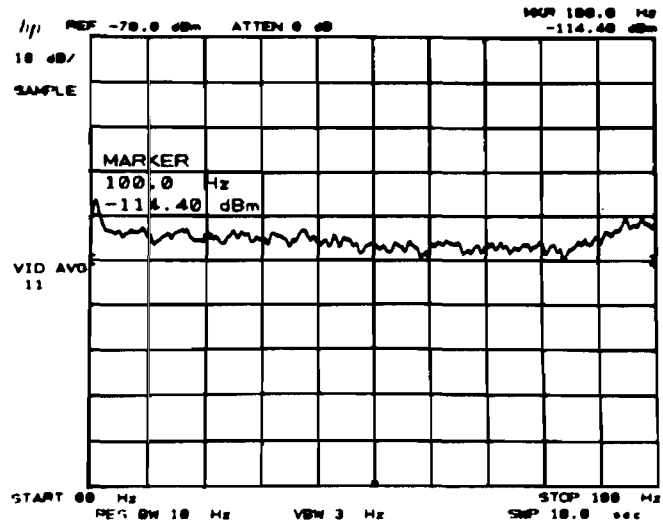

Figure 2-26. Average Noise Level Measurement
7. Press MARKER **NORMAL**. Tune to 100 Hz, or the nearest frequency that is not on the slope of the LO feedthrough or on a line-related sideband (e.g., 120 Hz). Refer to Figure 2-26.